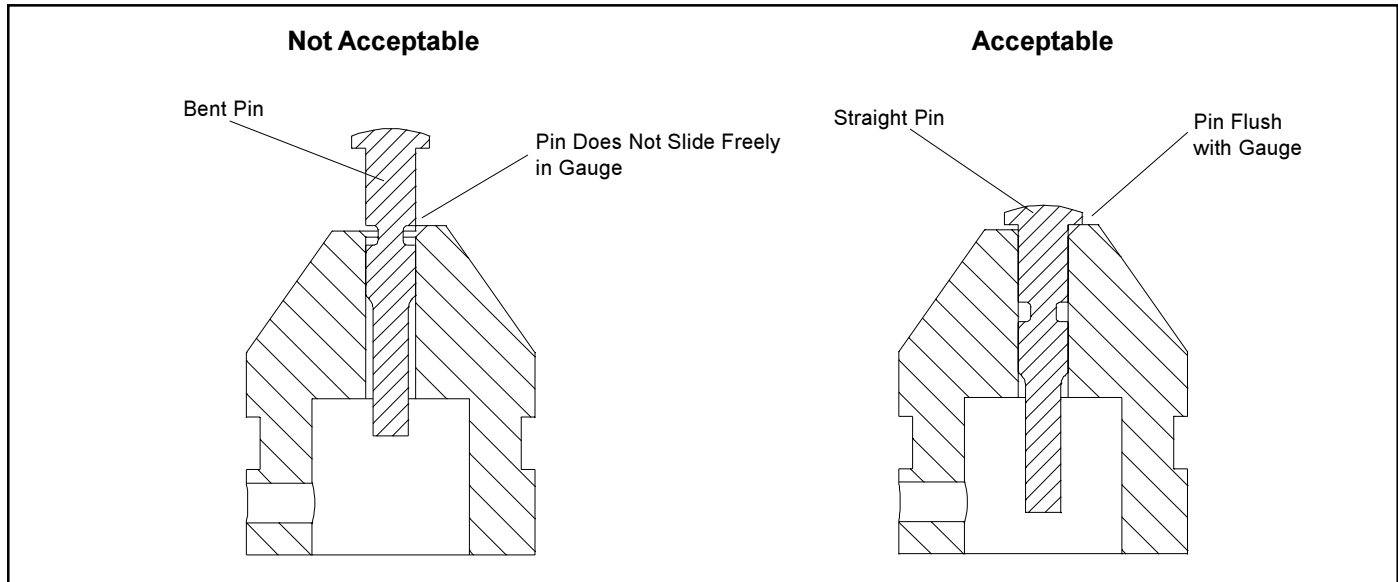

Figure 2 - Bent vs. Straight Pins
3. Acceptable/straight pins should freely and entirely enter the gauge when the pin is dropped into the gauge bore. The head of the plunger pin should be, at least, flush with the top of the gauge surface (**See Figure 2**). Pins that pass this test are to be reused during assembly.